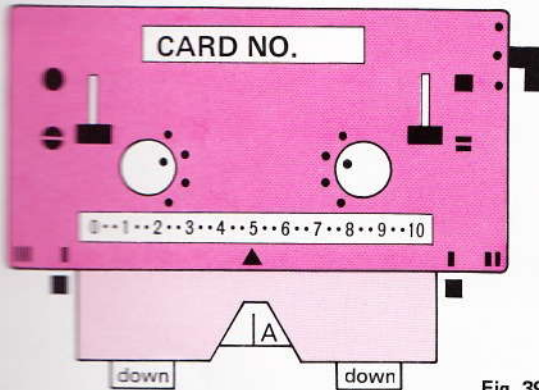

Fig. 39
- Adjust the carriage as follows : (fig. 39)